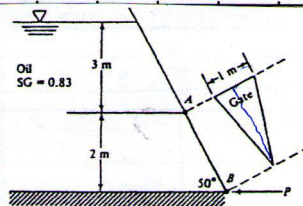

Fig. P2.68
2.68 Isosceles triangle gate AB in Fig. P2.68 is hinged at A and weighs 1500 N. What horizontal force P is required at point B for equilibrium?